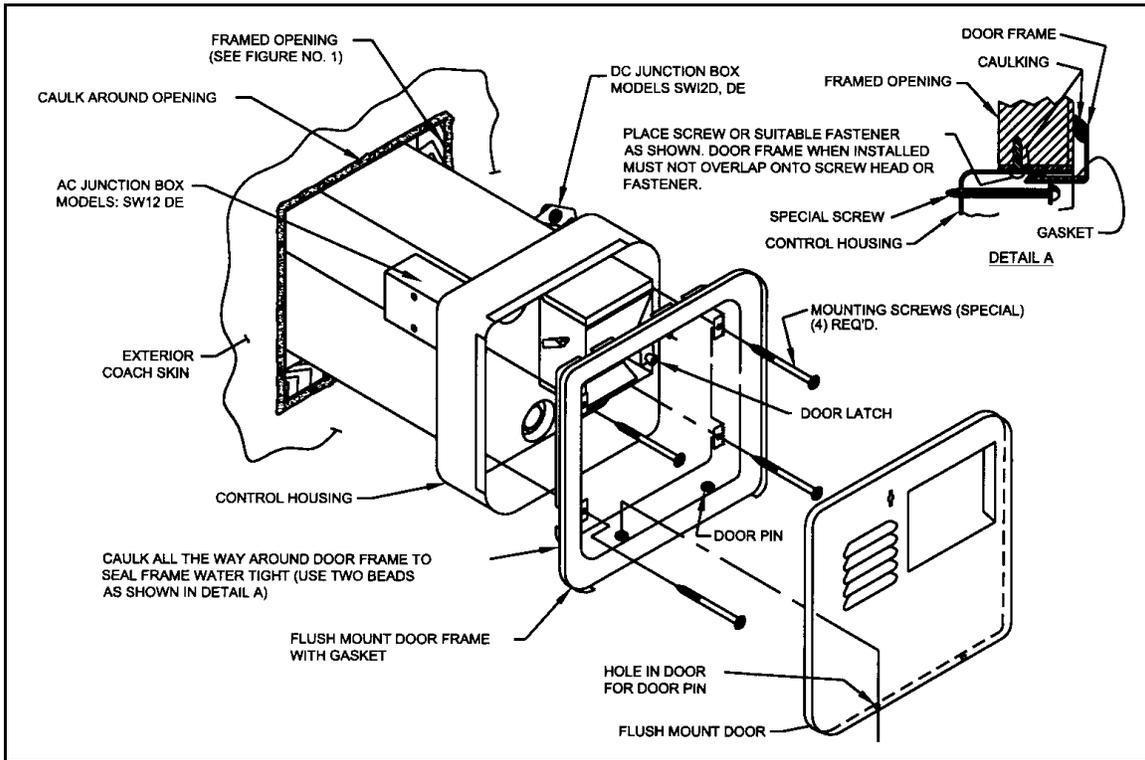

Figure 2
INSTALLATION USING FLUSH MOUNT FRAME & DOOR (See Figure 2 for Illustration)
- B. Refer to Figure 2 for location of D.C. junction box on models SW 12D and SW 12DE. Refer to Figure 5 for location of D.C. junction box on model SW 12DEM.
- B. Refer to Figure 2 for location of A.C. junction box on model SW 12DE. Refer to Figure 5 for A.C. junction box on model SW 12DEM.